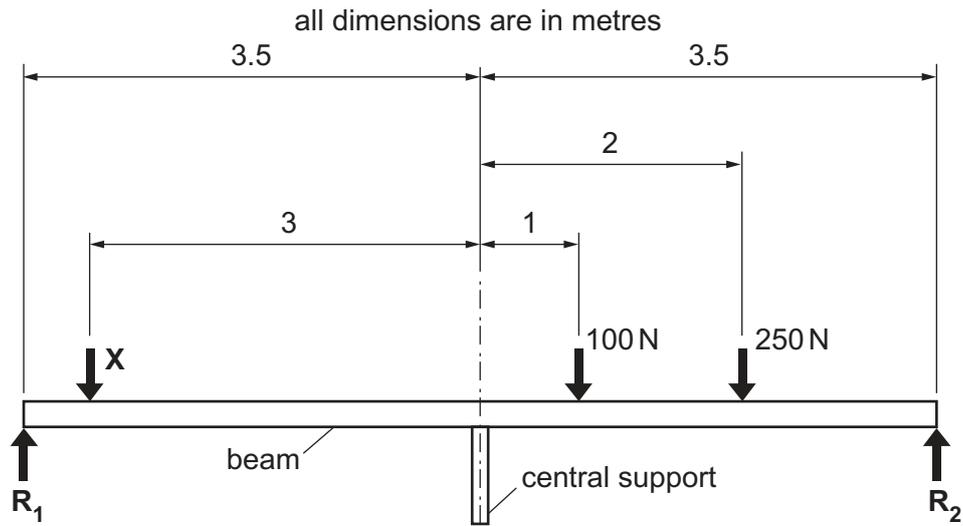

Fig. 9.4
- (c) Fig. 9.4 shows a beam that is loaded on both sides of a central support.